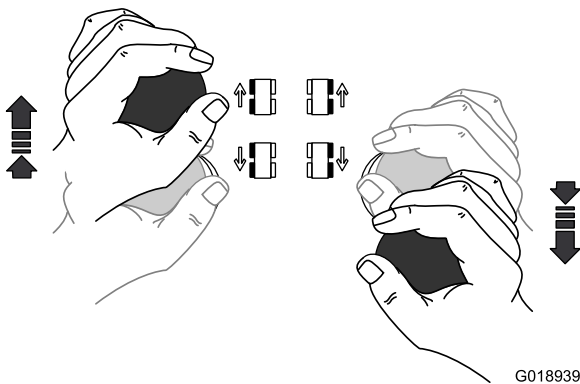

Figure 42
- To turn the machine **right**, grasp the both traction-control levers with your hands and push the left, traction-control lever forward, and pull the right, traction-control lever backward (Figure 42).